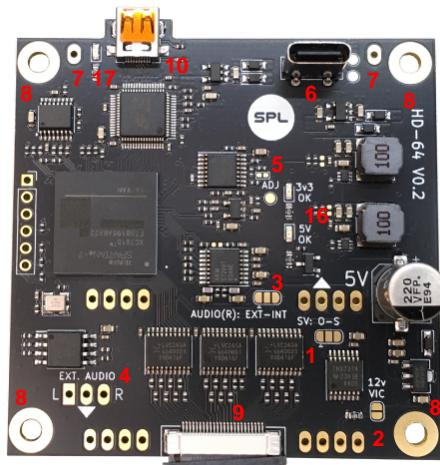

Figure 4. HD-64 Legend (Top)
1. Once the steps in Section 3.3 have been carried out and **before** performing any other step, turn on the computer and verify that both power leds are turned on (Item 16 in Figure 4).
3. (optional) In order to permanently fasten the HD-64 to the motherboard, drive a long pin or a piece of wire through the retainer pins close to the rear of the HD-64 (Item 7 in Figure 4) and solder one end to the top of the HD-64, and the other end to the exposed ground plane on the motherboard. (It is generally necessary to remove the motherboard from the case to perform this step)
Once all the steps in Section 3.3, Section 3.4 and Section 3.5 have been performed turn on the computer. The status LED next to the HDMI connector (Item 17 in Figure 4) should turn solid-green. If this does not happen this might indicate that the flat cable is not connected properly.
The jumper denominated "AUDIO ® EXT-INT" (Item 3 in Figure 4) controls whether the right audio channel receives the signal coming from the motherboard through the RF-Modulator header or the one coming from the "EXT. AUDIO" header (Item 4 in Figure 4). The right audio channel **receives no signal** until one side of the jumper has been closed.
The jumper denominated "SV: O-S" (Item 1 in Figure 4) determines whether the amplitude of the chroma signal (on the S-Video analog output) matches that of an original RF-Modulator, or if it should have the lower "standard-compliant" amplitude. **No chroma is available** on the S-Video analog output until one side of the jumper has been closed.
The jumper denominated "12v VIC" (Item 2 in Figure 4) should be closed when a 12v VIC-II is being used (VIC-II models 6567 & 6569).
In the unlikely case that the performance of the video synchronization circuit drifts over time, to the point that synchronization is no longer obtained (HDMI video output absent or unstable) it is possible to close the jumper denominated "ADJ" (Item 5 in Figure 4) to bring the synchronization circuit back within the optimal range of operation.
The firmware of the HD-64 can be upgraded by connecting it to a PC through the on-board USB-C port (Item 6 in Figure 4).